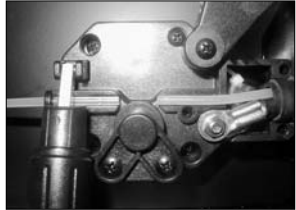

Figure 6
- Reattach torch cable cover onto drive deck, making sure wire liner is aligned with drive roller, but not touching the roller (see figure 6).